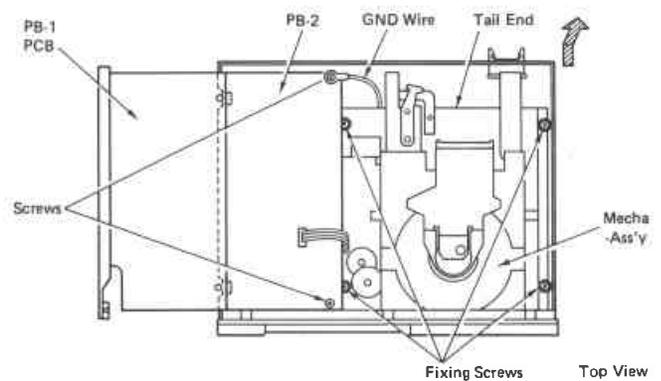

Fig. 4
- 3) Remove two screws fixing PCB PB-2 from the chassis. (Fig. 4)
- 5) Remove four screws fixing mechanism ass'y from the chassis. (Fig. 4)